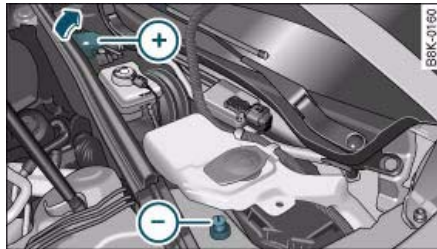

Fig. 217 Engine compartment: Terminals for jump leads and battery charger
- Open the red cap on the positive terminal ⇒ fig. 217.